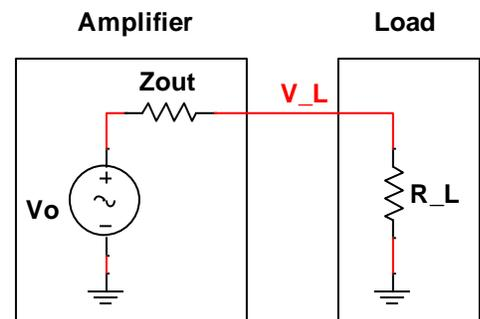

Fig. 5: General description of output impedance Z_{out} .
- Looking at Fig. 5, $R_L = \infty$ means $V_L = V_O$.